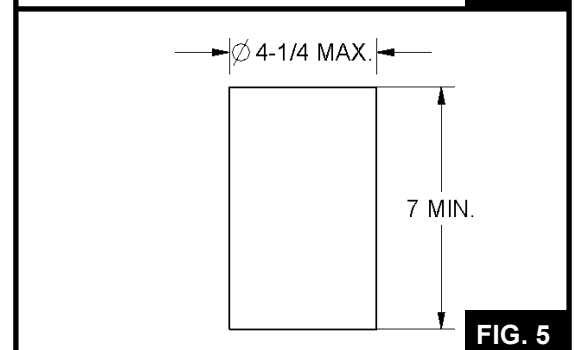
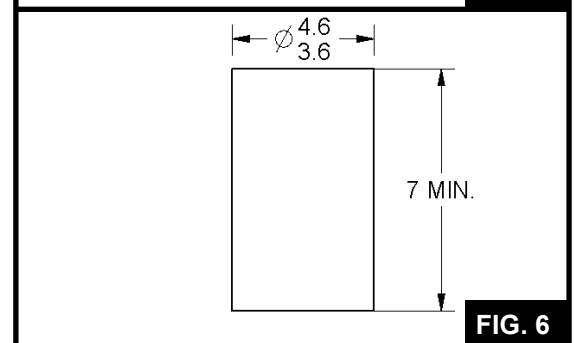

FIG. 5
FIG. 6
- ◆ Center Bushing Inner Sleeve Tool (**See FIG. 5**)
- ◆ Center Bushing Outer Sleeve Tool (**See FIG. 6**)
8.2 Using the recommended center bushing press out tool (**See FIG. 5 on page 4**), press out the bushing inner sleeve until fully removed from the walking beam. Next, press out the bushing outer sleeve (**See FIG. 6 on page 4**).